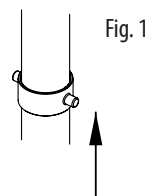

Fig. 1
1. Slip the pivot casting ring on the bottom of the jack. The ring should slip snug around the bottom of the jack. (Figure 1)